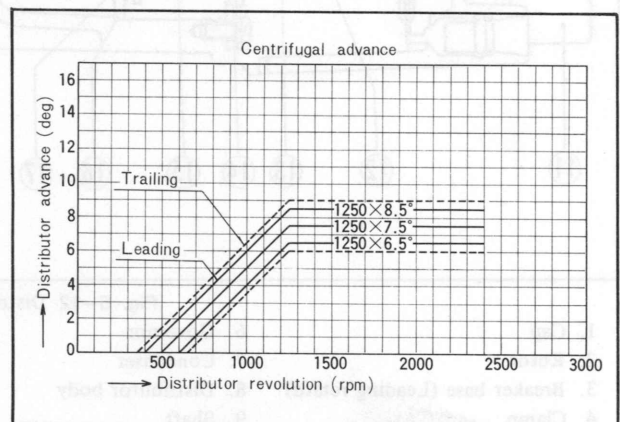

Fig. 5-11 Advance characteristic
3. Check the advance characteristic. The advance characteristic of the distributor should be within the range as shown in Fig. 5-11.